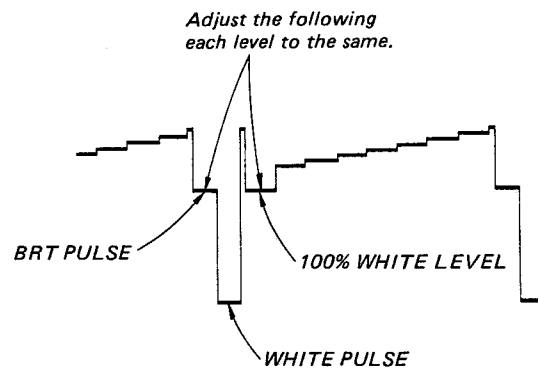

Fig. 5-61.
4. Set the BRIGHTNESS control to the MIN position (just before it clicks). Turn the CONTRAST control so that the BRIGHTNESS pulse level coincides with the 100% WHITE level. (See Fig. 5-61.)